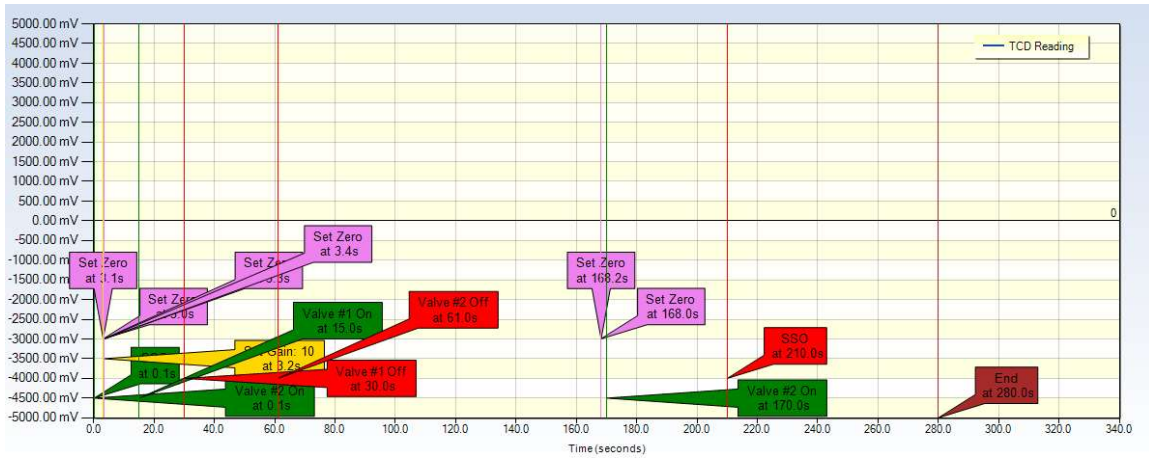

Figure 4-22: Presenting Actions on the Chromatogram
- **Actions** – displays chromatographic actions on the chromatogram (Figure 4-22). Two action lists can be generated.